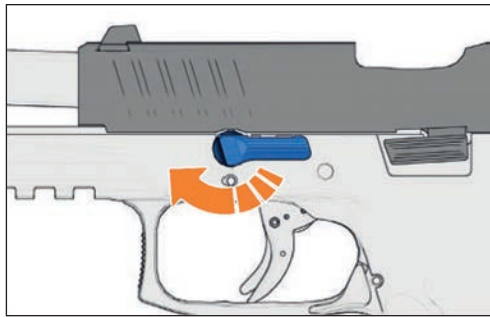

Figure 18 – Rotating the disassembly lever
2. With the slide still locked to the rear and the magazine removed, rotate disassembly lever, located on the left hand side of the frame, forward until the lever is pointing downwards to approximately the six o'clock position (see Figure 18):